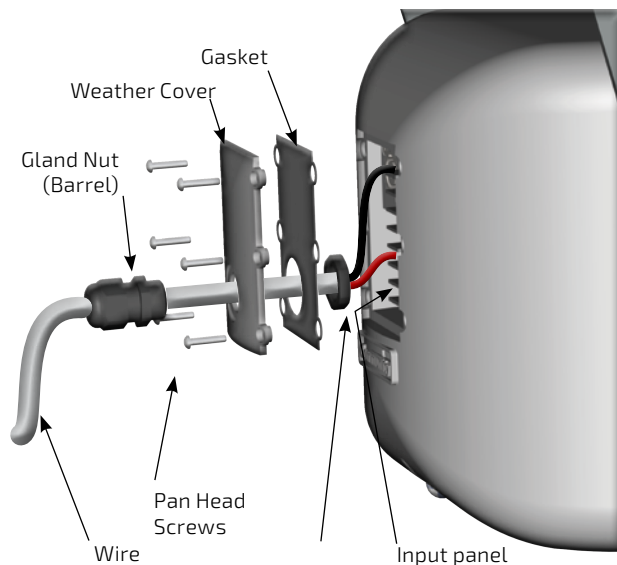

Figure 6. Weather cover attachment
7. Secure the gland nut to the weather cover. Align the weather cover with the holes and attach using the provided pan head screws. See **Figure 6**.